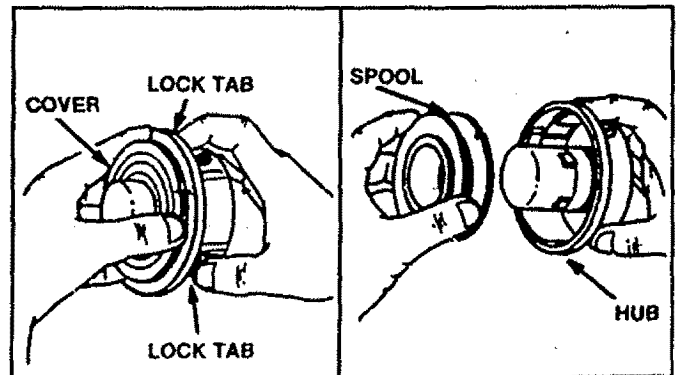

Figure 24
INSTALLING PRE-WOUND SPOOL (Fig. 24, 25, 26, 27 & 28)
- Hold the semi-automatic head as shown. Press the two lock tabs and remove cover. Figure 24.